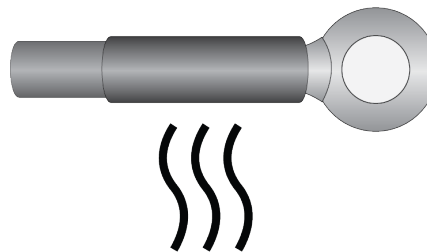

Figure 35. Heating the Heat-Shrink Tube
6. Heat the heat-shrink tube to secure it on the wire and ring terminal lug. Refer to Figure 35.